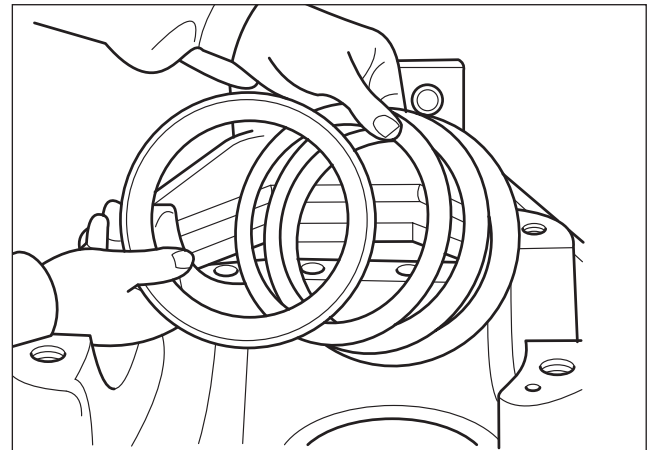

Fig. 2.28
28. Turn carrier over and remove shims with bearing cup. (Fig. 2.28)